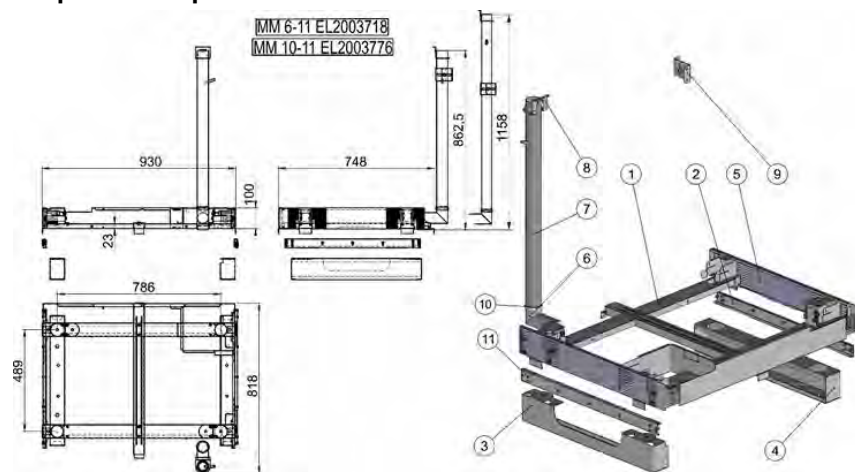

Fig. 43: Kombimix kit, right-hinged 6-11/10-11 ELECTRIC
8. Bend the separating plate 90° in accordance with the hinge side and edge the lugs (Fig. 52), and install it on the intermediate frame (right-hinged on the left-hand side/left-hinged on the right-hand side). See Fig. 43 for electric devices, see Fig. 46 for gas devices.